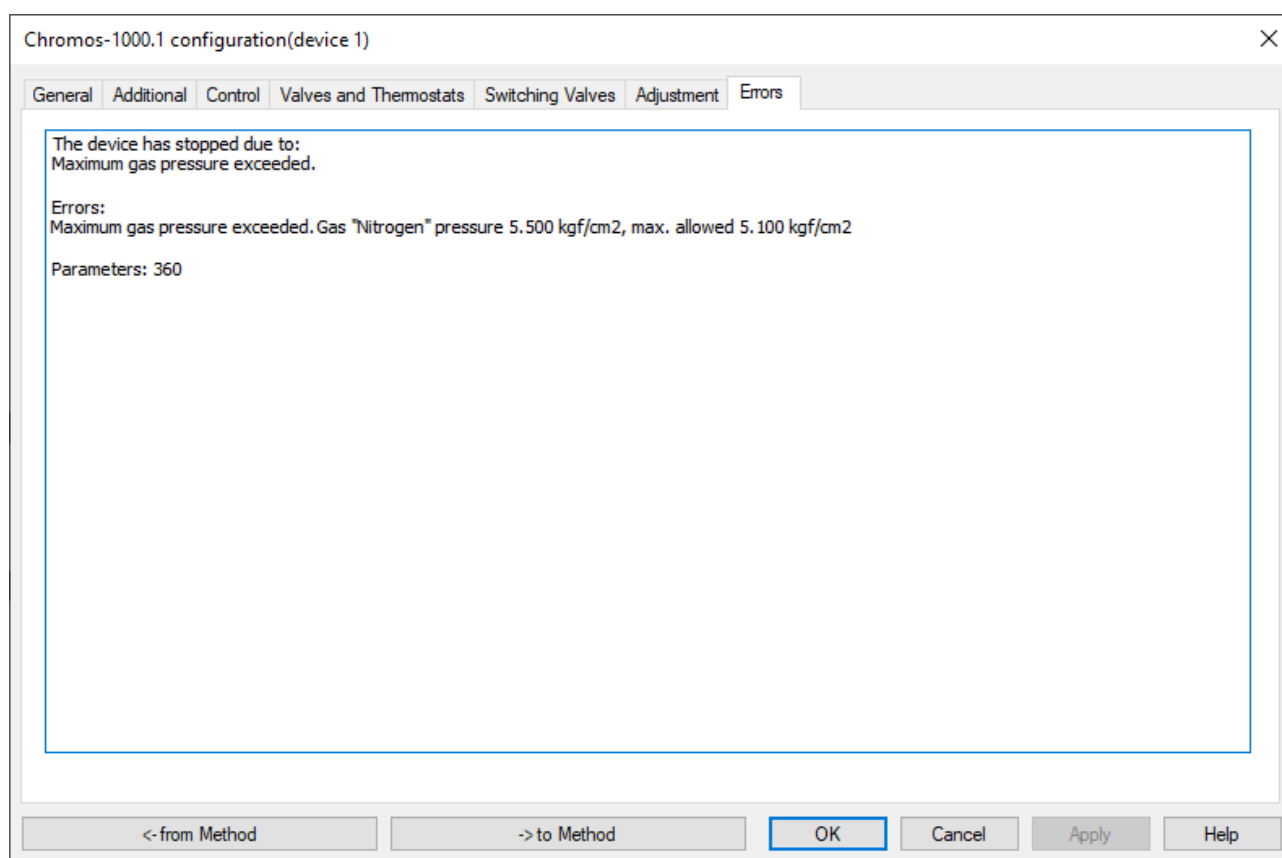

Fig. 103: Chromos-1000 Configuration > Errors
2. In the *Configuration* window, navigate to the *Errors* tab (Fig. 103). The report shows at which GFR the pressure was exceeded.